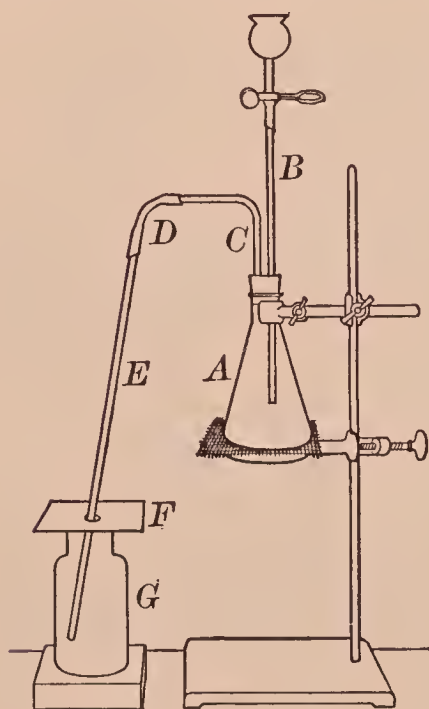

FIG. 37. — Apparatus for preparing hydrogen chloride and hydrochloric acid
APPARATUS. — As in Fig. 37 (or Fig. 38). A is a 250 cc. Erlenmeyer flask which stands on a gauze-covered ring; the parts lettered B, C, D, E have been used in preceding experiments. F is a piece of stiff paper.
I. Preparation. — (1) **Hydrogen chloride.** — Put 8 cc. of water into a small bottle or an evaporating dish, cautiously add 10 cc. of concentrated sulfuric acid, and stir until the two are mixed. While this mixture is cooling, weigh 10 gm. of sodium chloride, slip it into the flask, and arrange the apparatus as shown in Fig. 37. If a straight thistle tube is used (Fig. 38), the lower end must be below the surface of the acid.
APPARATUS. — As in Fig. 37. If desired, the optional apparatus shown in Fig. 38 may be used.
**I. Preparation.** — Slip the manganese dioxide into the flask. Arrange the apparatus as shown in Fig. 37. Intro-